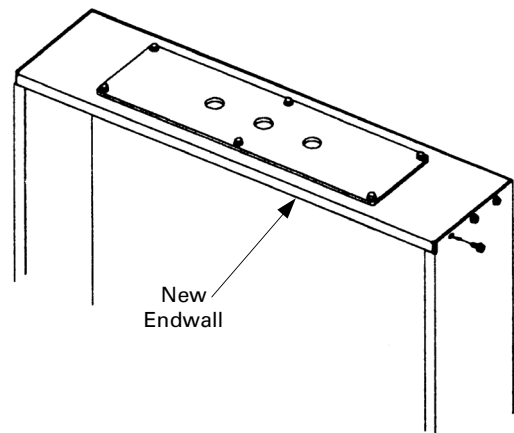

Figure 3. Attaching the new endwalls to the panelboard box.
4. Attach the new endwalls to the panelboard box, as shown in Figure 3, with the screws removed in step 3.